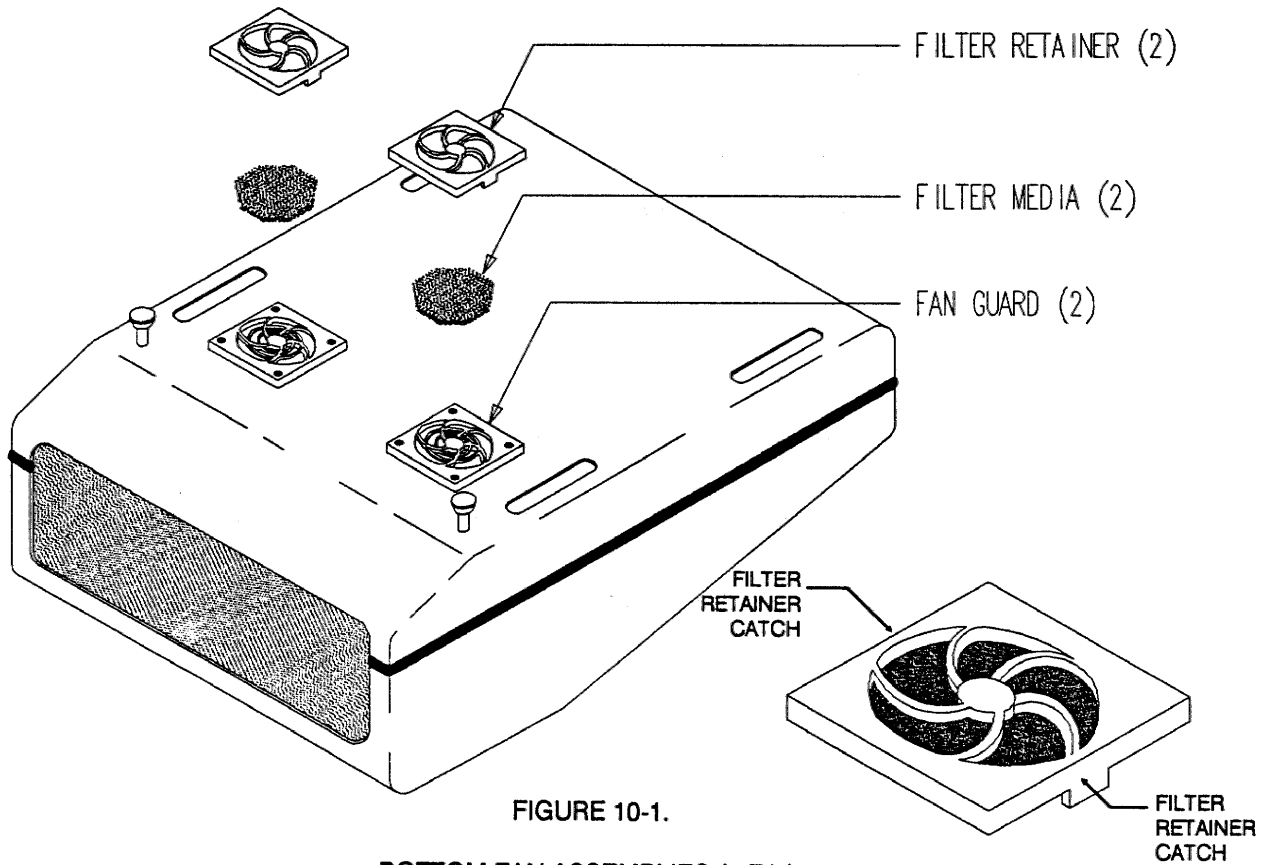

FIGURE 10-1.
- STEP 1. Remove the filter retainer by pulling the sides with the catch apart, then remove the filter media from between the retainer and the guard. Refer to Figure 10-1.